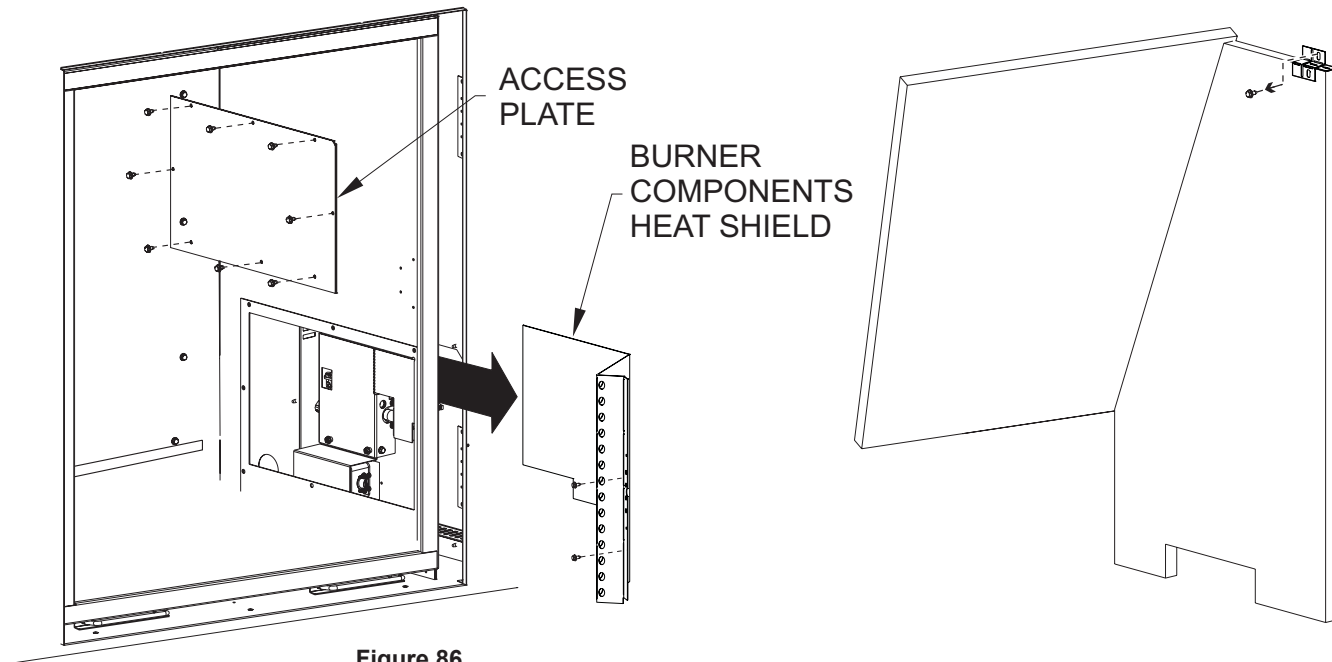

Figure 86
2. Remove the Burner Components Heat Shield. **See Figure 86.**
6. Remove the Access Plate. **See Figure 86.**